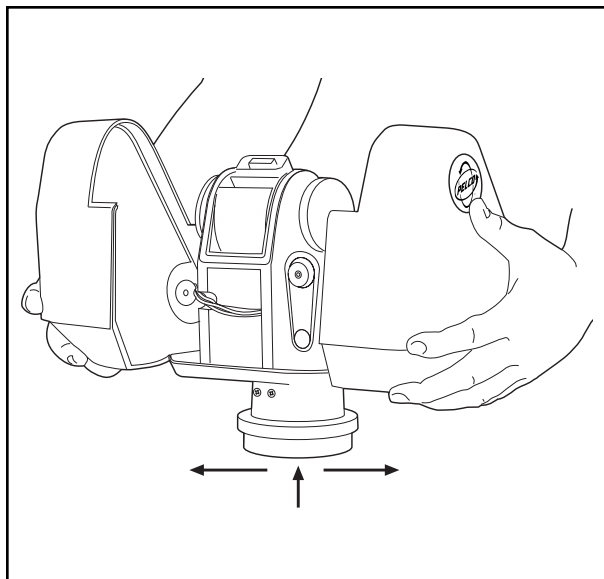

Figure 5. Removing the Covers
- c. Refer to Figure 5 and pull the cover halves away from the pan/tilt unit.